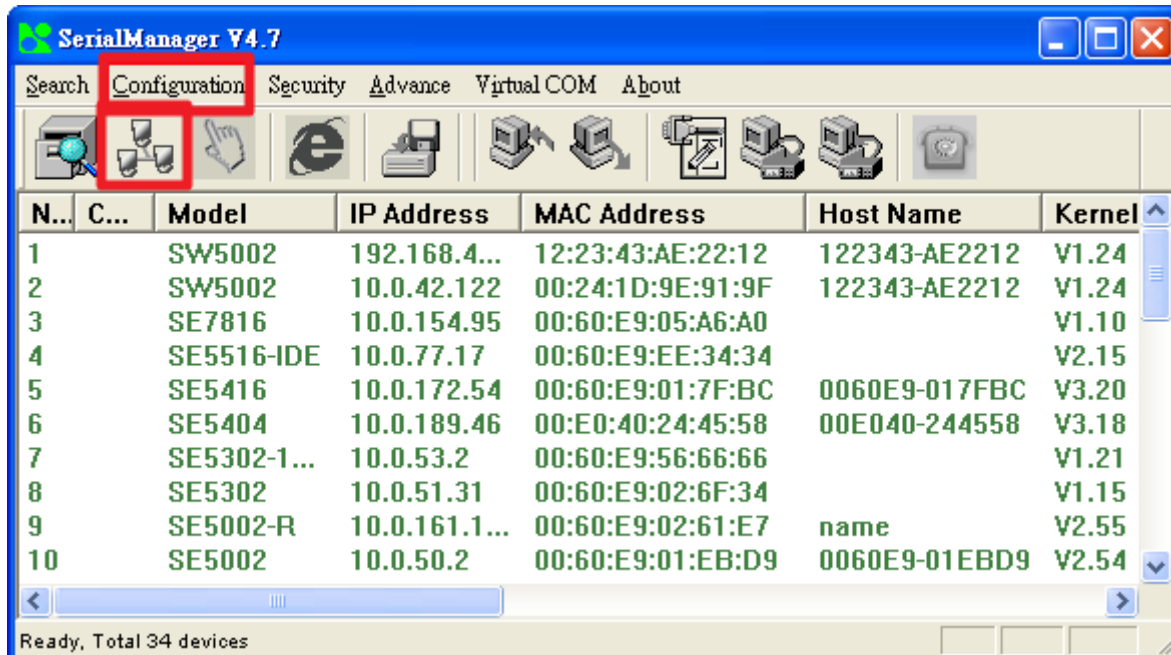

Figure 3.1 Configure by SerialManager
- >Execute SerialManager (Figure 3.1)